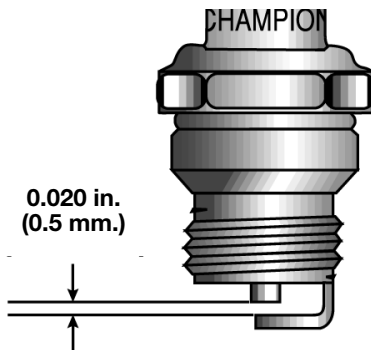

Fig. 22
3. Replace cracked, fouled or dirty spark plug. Set the air gap at **0.020 in. (0.5 mm.)** using a feeler gauge (Fig. 22).